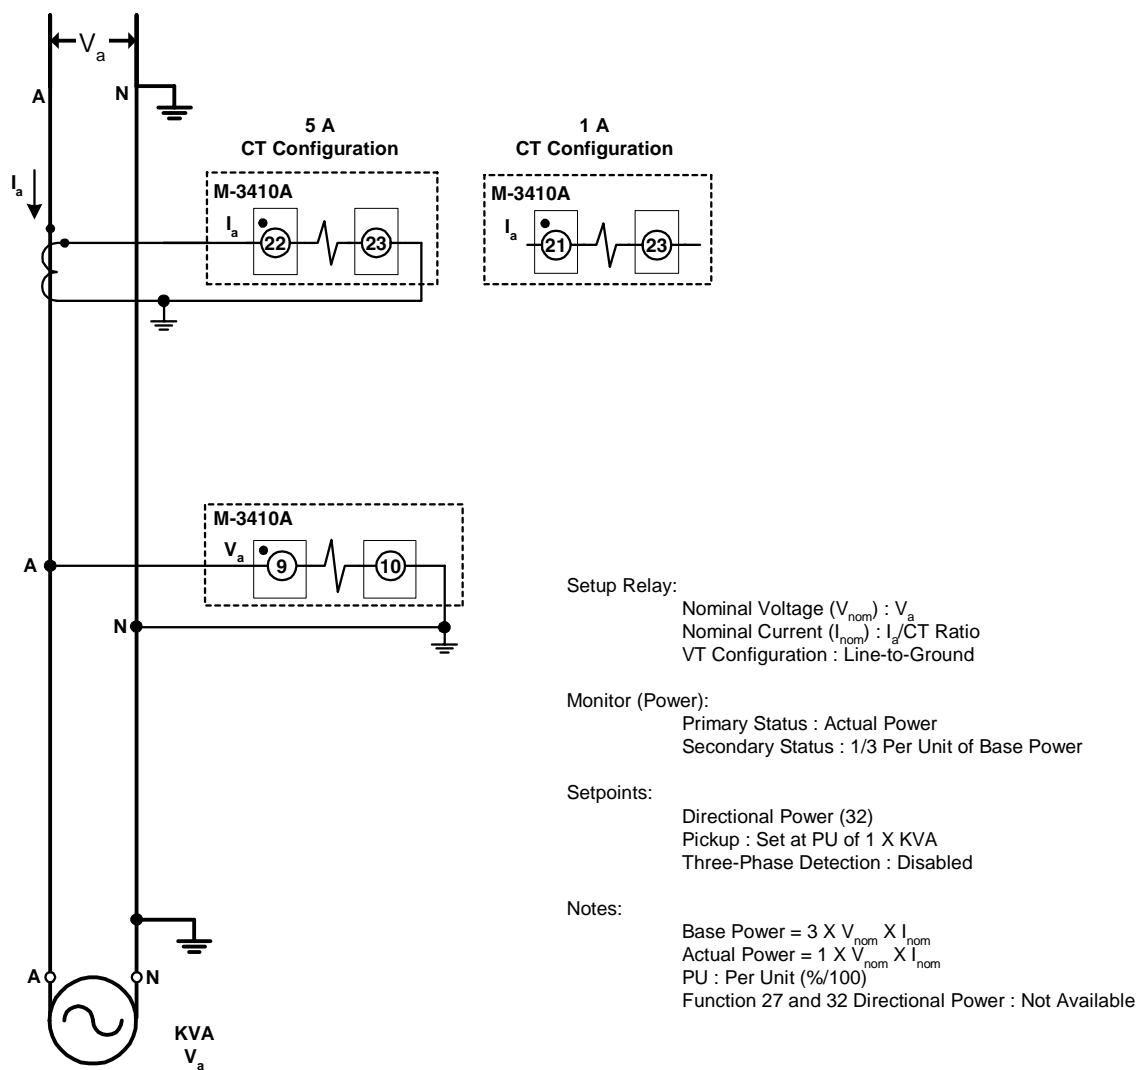

Figure 2-14 Single-Phase Two-Wire Connection Diagram
An alternate single-phase two-wire connection is shown in Figure 2-14. If the Directional Power (32) Function and Undervoltage (27) Function are required by the application, this connection must be used. With this connection, the Directional Power (32) Function can be set with no adjustment required. The power displayed on the Primary Status Monitoring Screen will be 3 times the actual kVA and the Secondary Status Monitoring Screen will display 1 PU of the three-phase base power calculated by the relay.